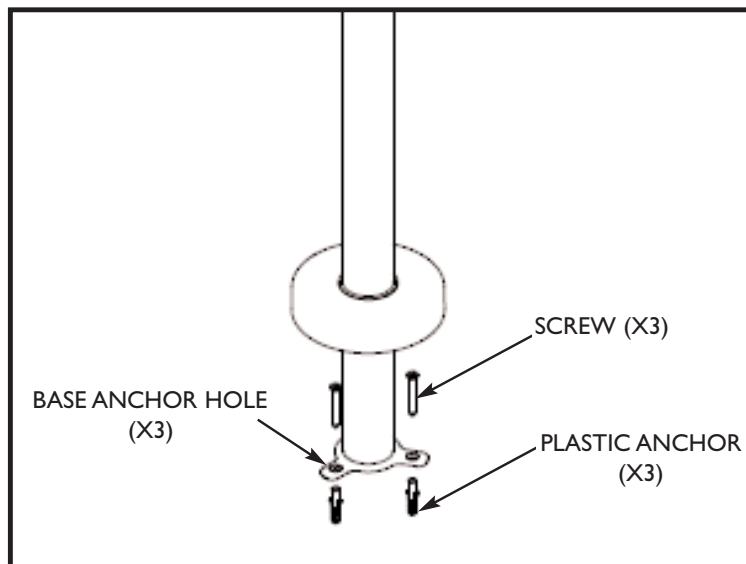

Figure 5
4. Securing the Tub Filler to the Floor: Figure 5 illustrates the hardware required to mount the Tub Filler Riser to the floor.